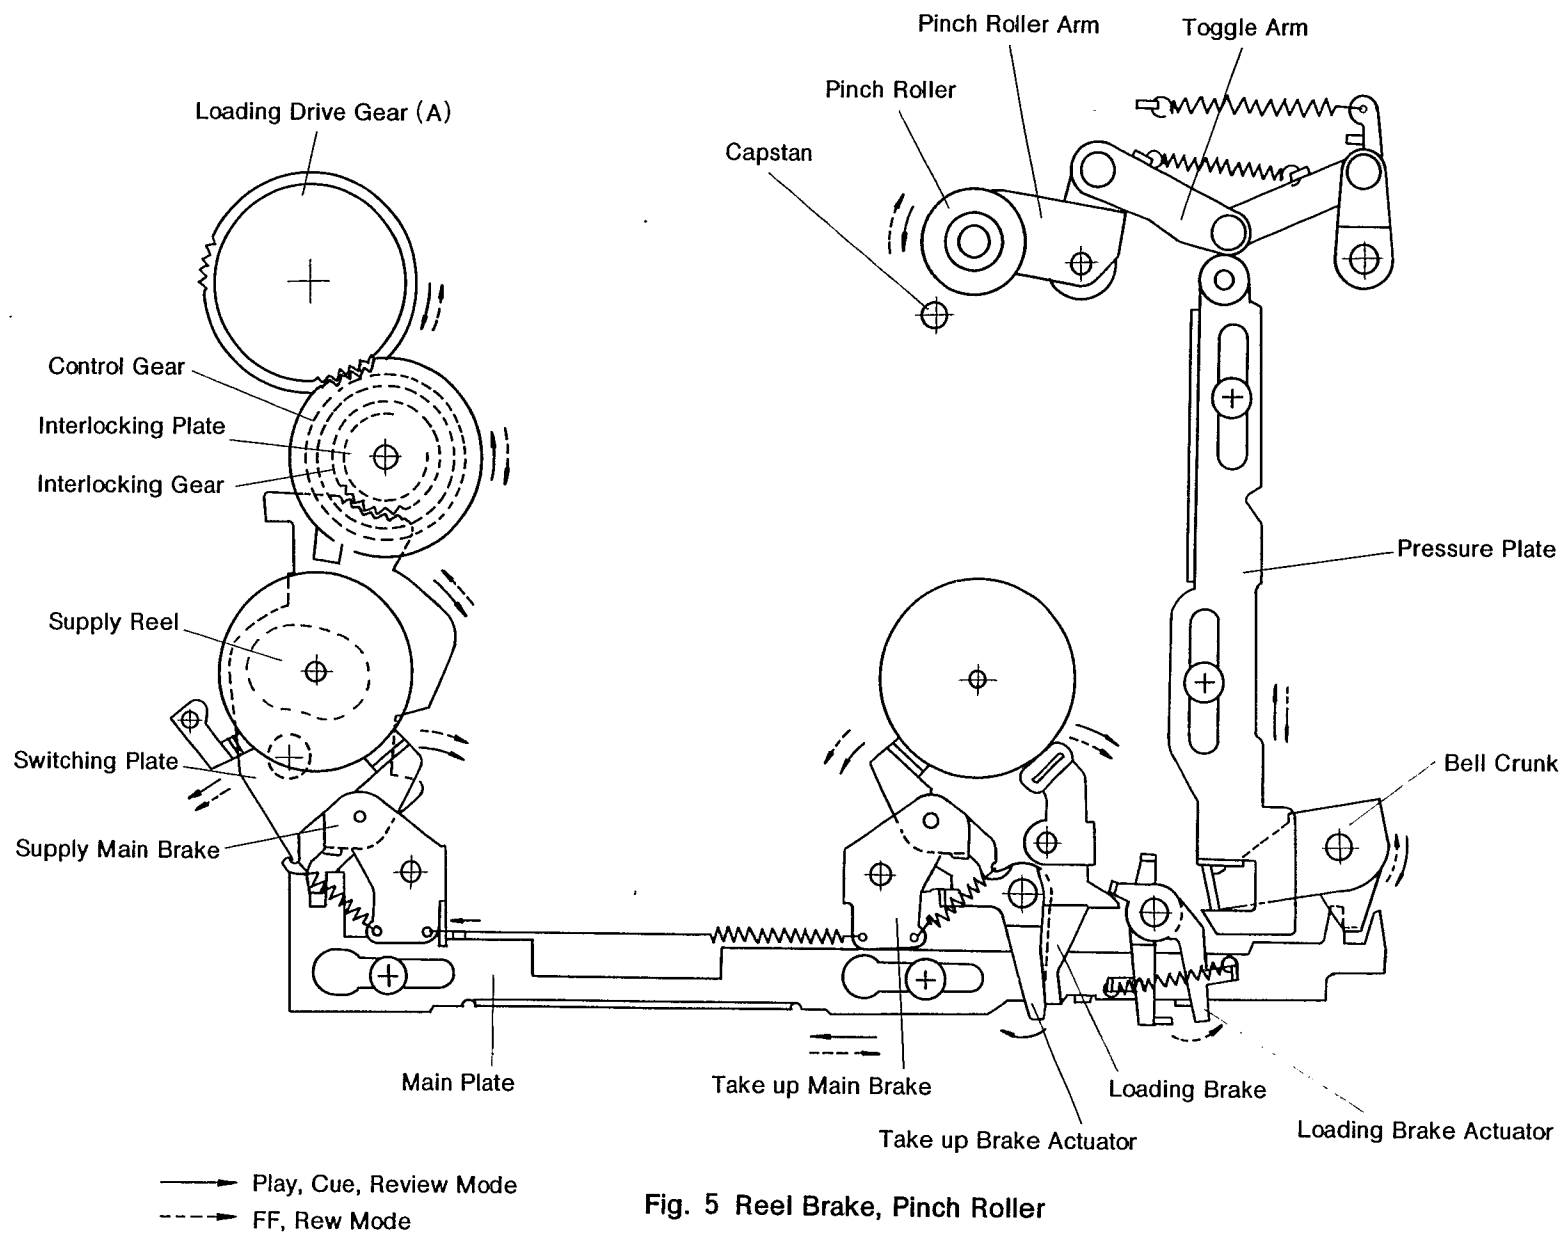

Fig. 5 Reel Brake, Pinch Roller
2. Controls the brakes (Fig. 5)
3. Controls the pinch roller (Fig. 5)